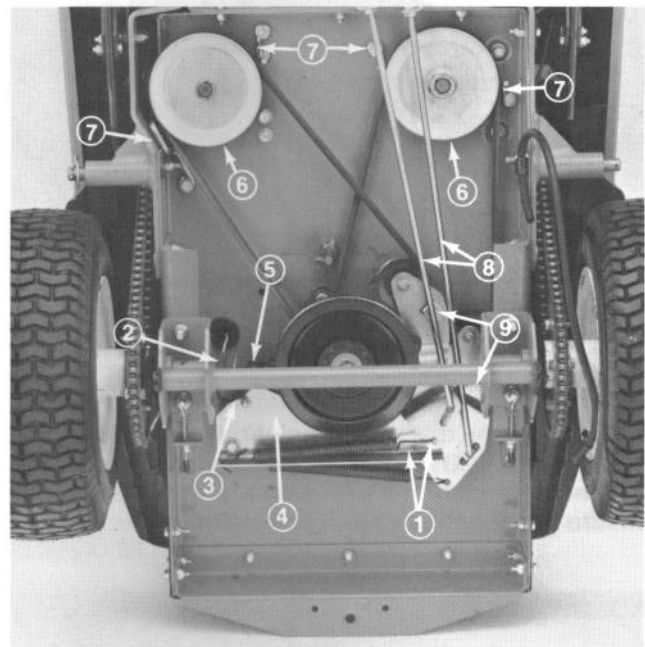

Figure 41
2. Have a helper depress clutch pedal while you insert (2) 1/4" capscrews into holes in pivot platform (Fig. 41). Slowly release clutch pedal allowing pivot plates to rest against capscrews, relieving tension from the belts.
4. Remove (3) capscrews and lockwashers securing clutch retainer and pivot platform to rider. (Electric clutch may have to be rotated to remove clutch retainer) (Fig. 41).
5. Loosen (4) belt guides on (2) driven pulleys. Remove belts from driven pulleys.
6. Remove front jam nut from each rear pull rod so that both pull rods can be disconnected (Fig. 41).
8. Remove (2) capscrews securing (2) belt retainers to pivot plates (Fig. 41) and remove belt retainers. Replace both traction belts and reinstall belt retainers and capscrews to pivot plates.
9. With (2) capscrews previously removed, reinstall assembly of pivot platform and rear pull rods. Loosely install front jam nuts on pull rods.
13. Have a helper depress clutch pedal while you remove the (2) capscrews installed in step #2.
14. Adjust and securely tighten (4) belt guides on (2) driven pulleys.